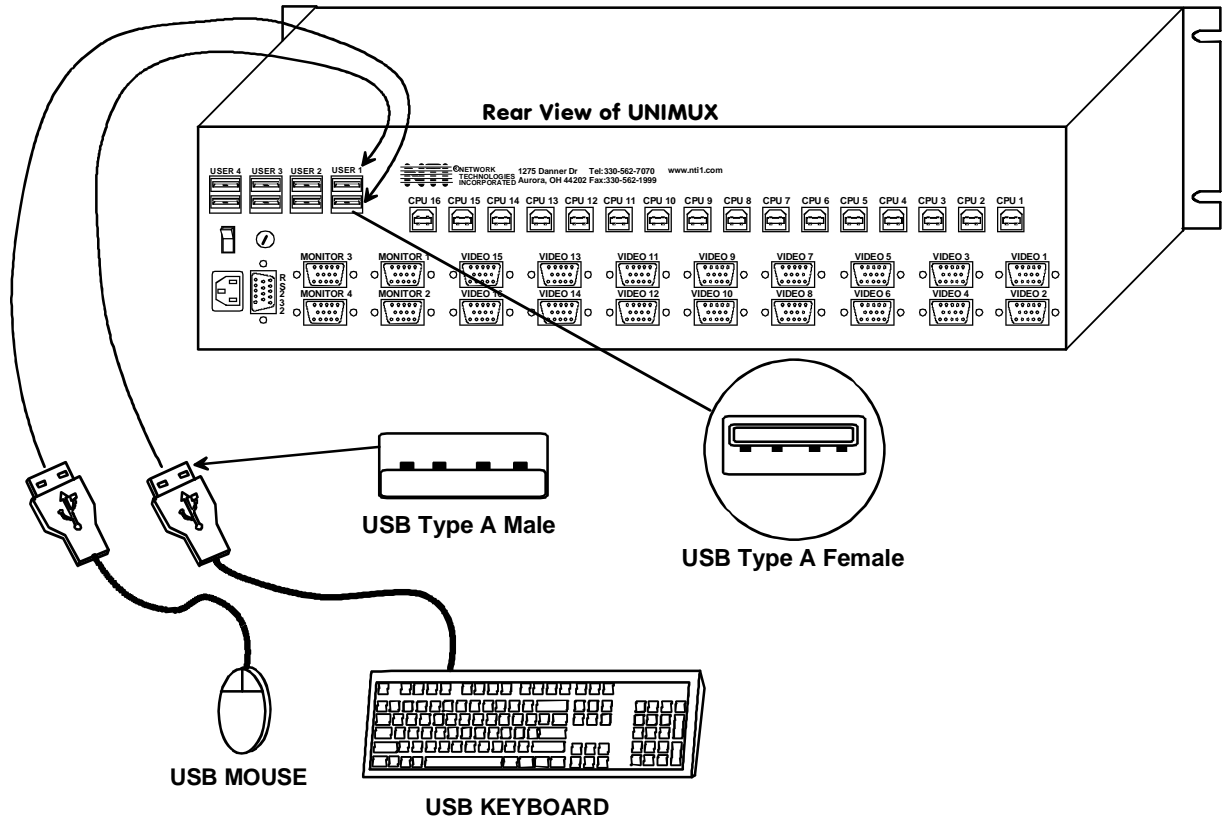
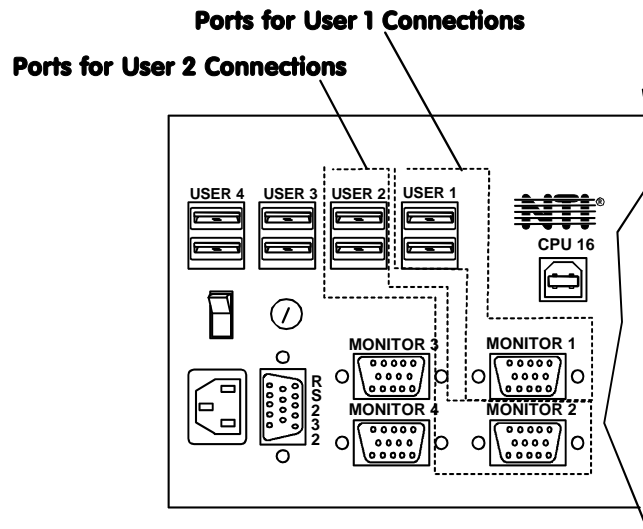

Figure 3- Install user devices (mouse and keyboard)
Figure 4- Group user ports by like number
2. Connect the user devices to the USB type A female ports labeled USB USER DEVICES on the rear of the UNIMUX switch. (See Figure 3.) Ensure that the monitors and related user devices are connected to ports having the same port numbers. (See Figure 4.)
**Note:** If device cables are not long enough to reach the UNIMUX switch, they can be extended either 5 or 10 meters using either 1 or 2 NTI USB-A+A-5M Improved Active USB 5 Meter Extensions (purchased separately). (See Error! Reference source not found..) Contact your NTI salesperson for more details by calling (800) 742-8324 (800-RGB-TECH) or (330) 562-7070 or visit our website at <http://www.networktechinc.com>.